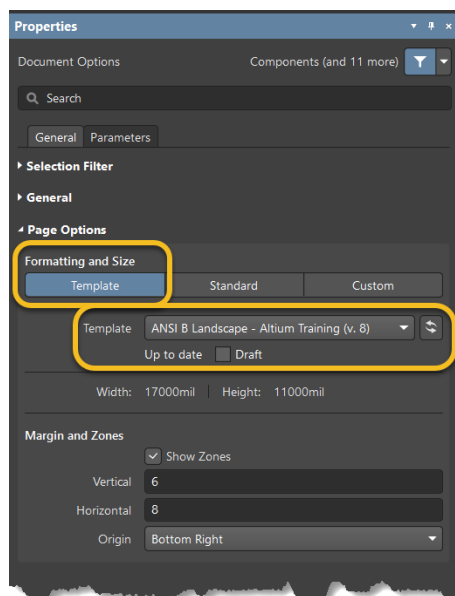

Figure 9. Properties Panel with Template information
40. Scroll down to see the *Page Options - Formatting and Size*, Figure 9.